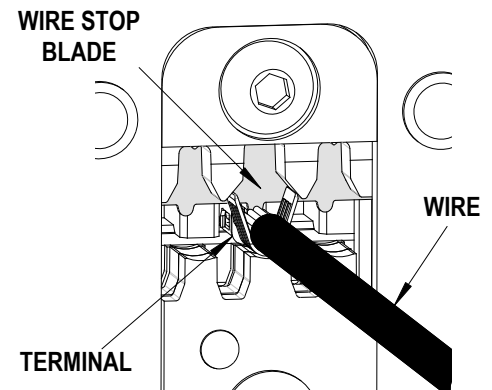

Figure 1
3. Place a pre-stripped wire into the terminal until the end of wire touching the wire stop. See Figure 1 and 2.